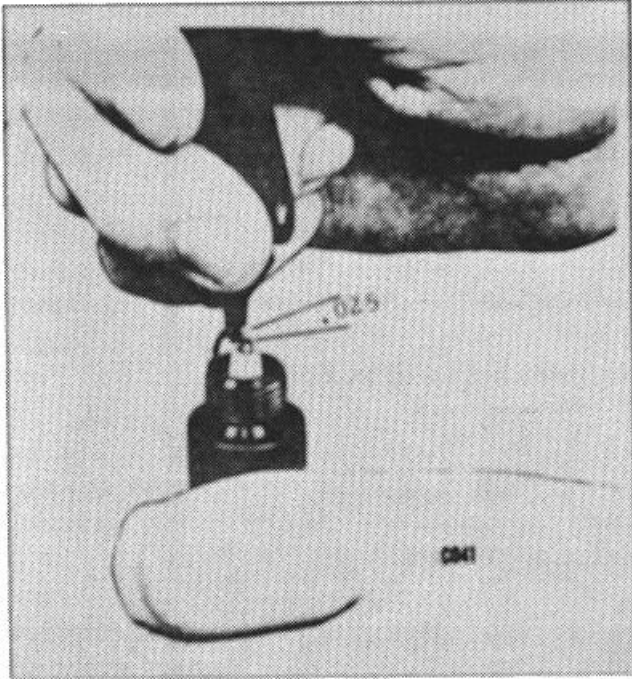

Figure 43.
**CAUTION:** Before adjusting gap, file center electrode flat. In adjusting the spark plug gap, never bend the center electrode which extends through the porcelain center as this may break the lower insulator. Always make adjustments by bending the ground or side electrode. (Fig. 43)